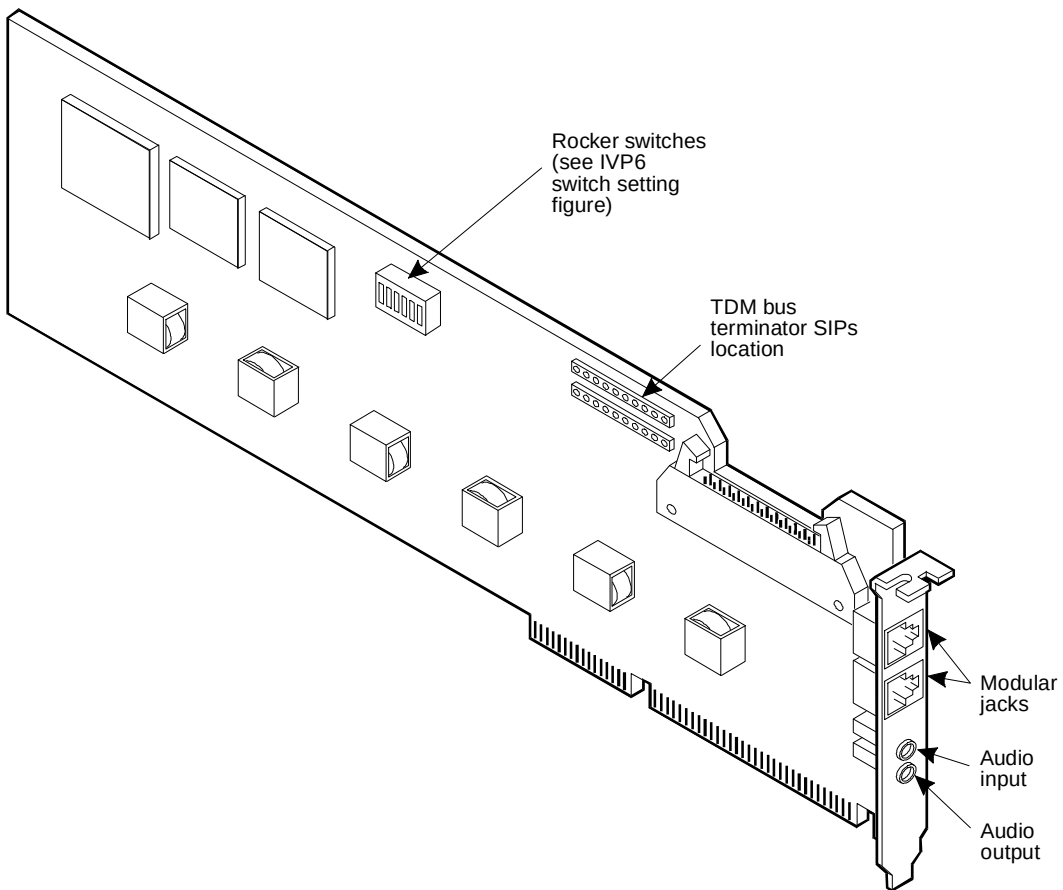

Figure D-44. IVP6 (AYC28) Tip/Ring Circuit Card
- IVP6 (AYC28) (see Figure D-44)